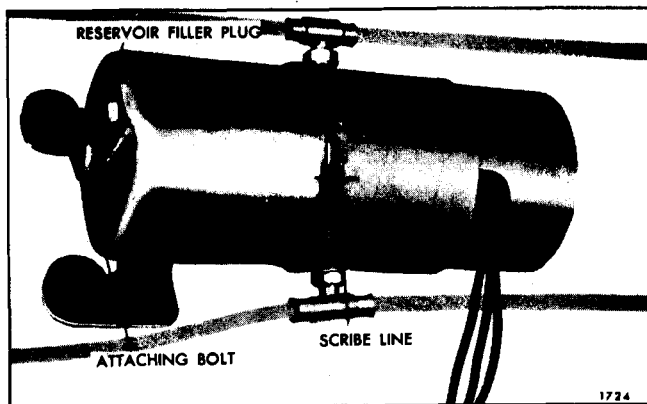

Fig. 12-19-Motor and Pump Assembly
2. Scribe a line across pump end plate and reservoir tube to insure a correct assembly of parts. See Figure 12-19.